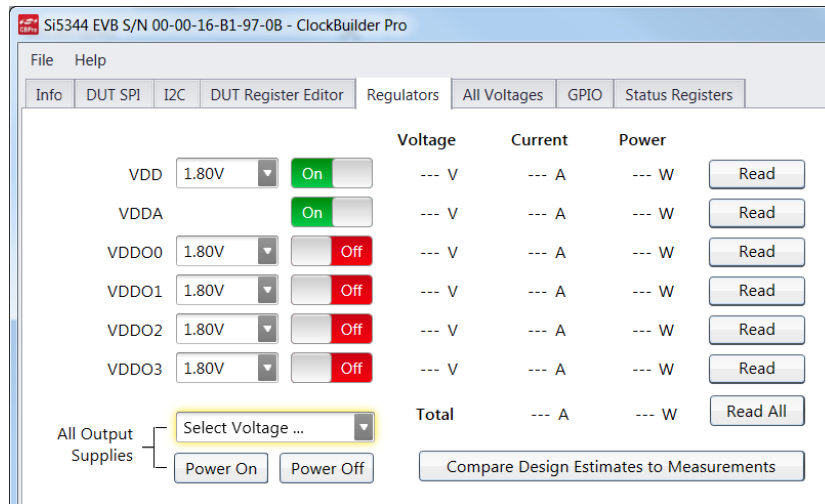

Figure 14. EVB GUI Window
6. The EVB GUI opens. All power supplies are set to the values defined in the device's default CBPro project file created by Silicon Labs, as shown in Figure 14.
You can run a quick check to determine if the device is powered up and generating output clocks (and consuming power) by clicking on the Read All button (bottom right-hand corner of Figure 14) and then reviewing the voltage, current, and power readings for each VDDx supply.